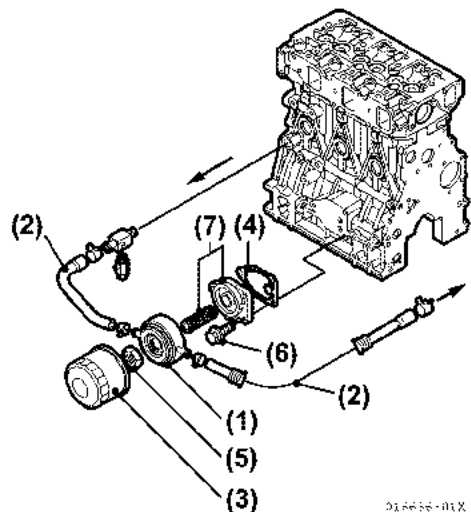

Figure 5-29
24. The lubricating oil cooler is located between the lubricating oil filter and the oil filter bracket, which is mounted on the cylinder block. The lubricating oil is cooled by fresh water (Figure 5-29):